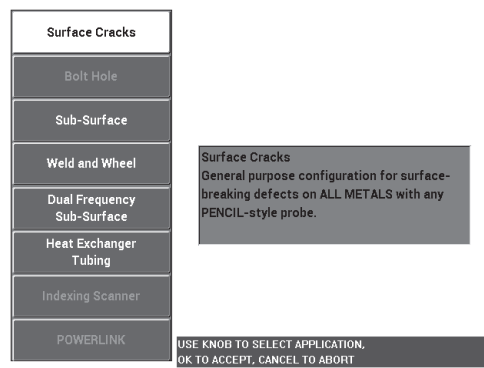

Figure 5-73 The Surface Cracks application
2. Press the ADV SETUP menu key () once, and then select **APPL SELECT** (A key) to open the application selection menu. Select **Surface Cracks** with the knob, then press  to accept (see Figure 5-73 on page 181).